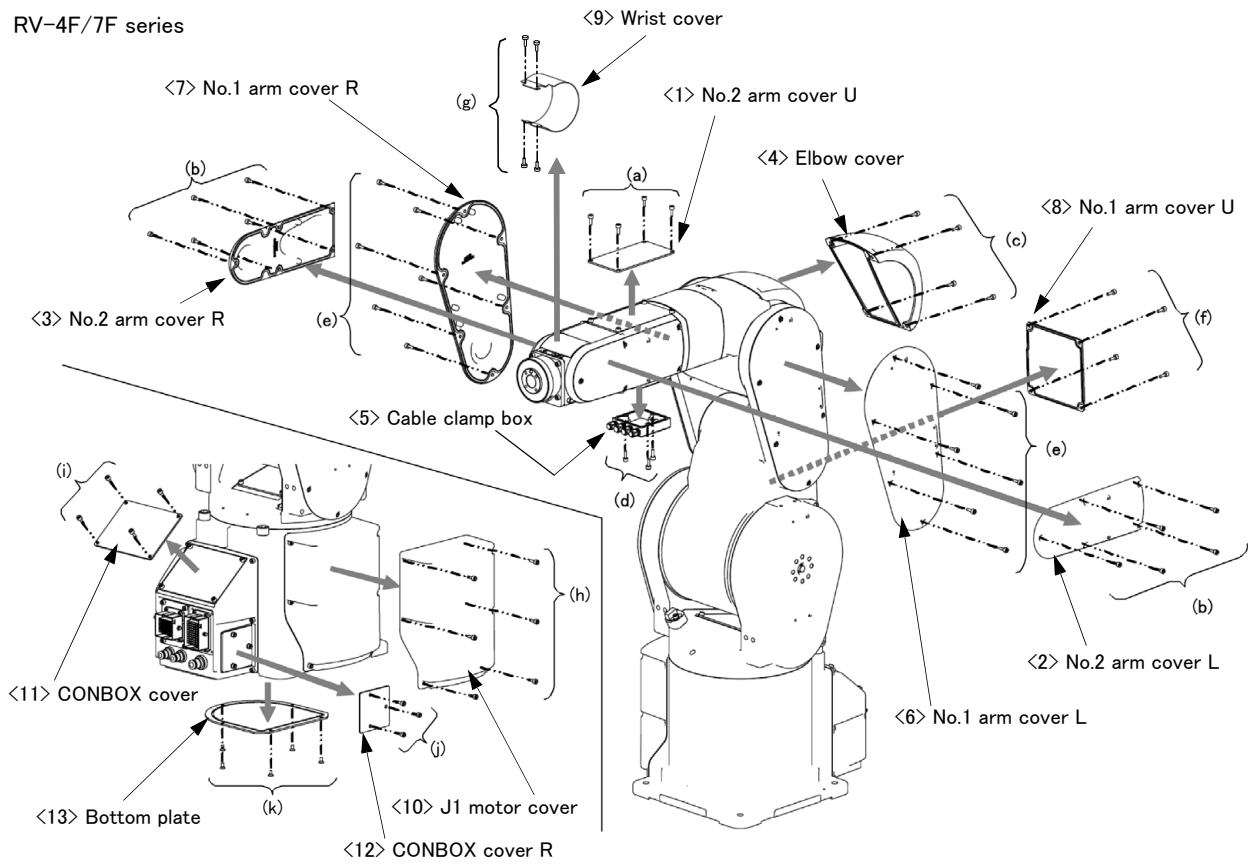

Fig.5-4 : Installing/removing the cover (RV-4F/7F series)
- (1) Refer to Fig. 5-4 (RV-4F/7F series) or Fig. 5-5 (RV-13F series), and remove the cover.
- (2) Table 5-3 lists the cover fixing screws.
- (3) There are some covers that may be difficult to remove due to the robot posture. In this case, change the robot posture with jog operation, and then remove the cover.
- (4) When removing the wrist cover, move the J5 axis to the position of +90 degrees by jog operation.
- (5) When attaching the cover after maintenance and inspection, use the detaching procedure in reverse.
The part Nos. and symbols in Table 5-3 correspond to Fig. 5-4 (RV-4F/7F series) or Fig. 5-5 (RV-13F series).